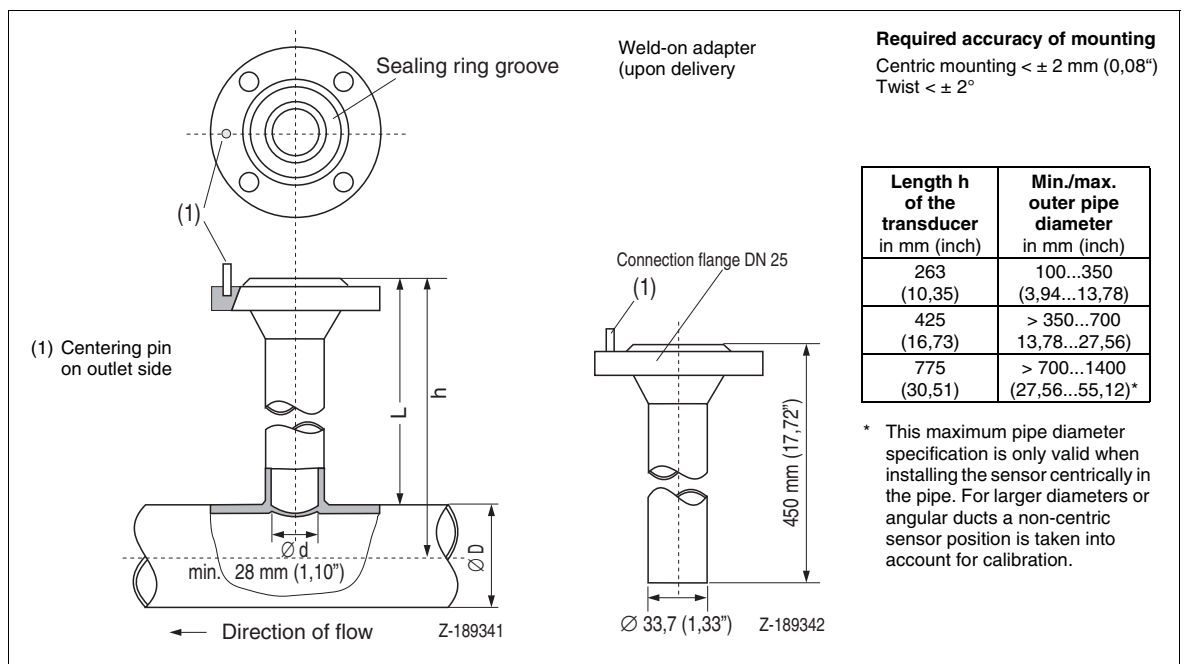
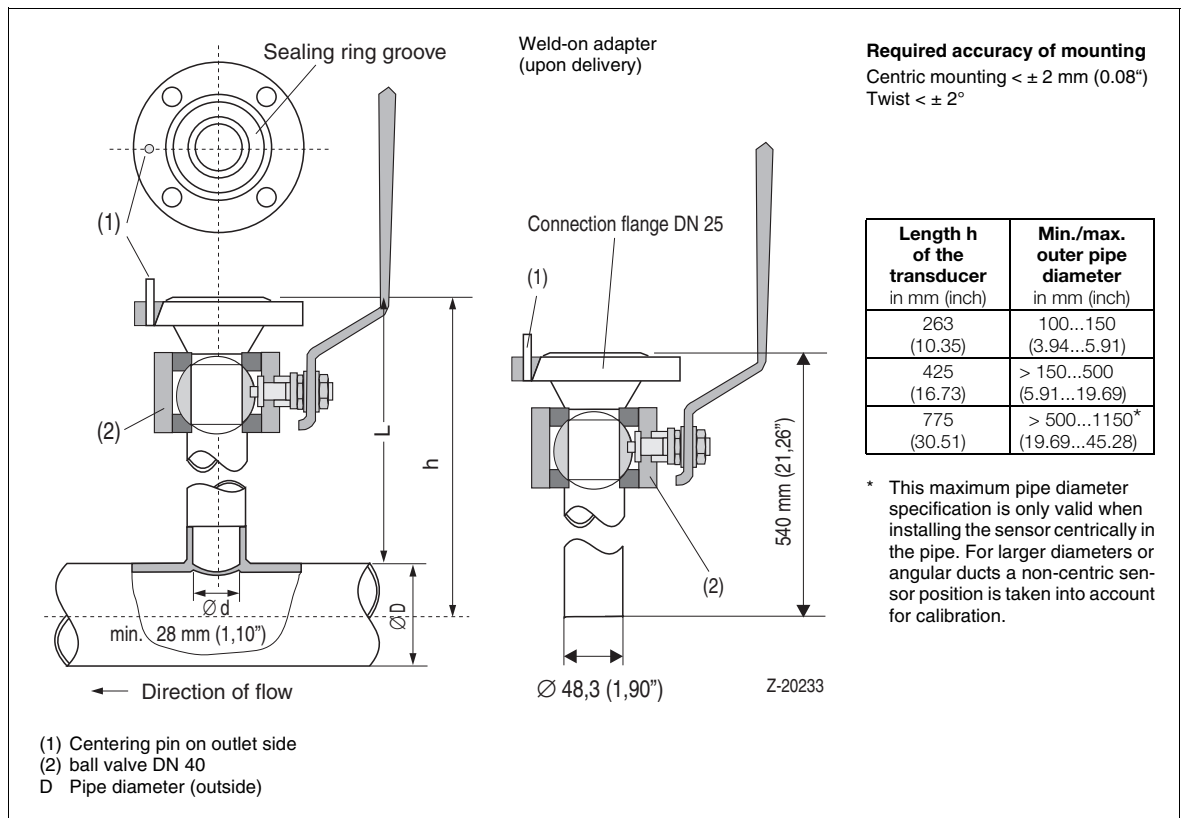

Fig. 4-2 Installation of the weld-adapter
Fig. 4-3 Installation of the weld-on adapter with ball valve
- The weld-on adapter must have a length L after welding (see Fig. 4-2 and Fig. 4-3)